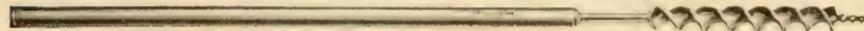

Fig. 1.—Pipe shaft soil auger.
*The Soil Auger*, as illustrated in Fig. 1, should be  $1\frac{1}{2}$  inches in diameter, though where very large stumps only are encountered, a 2 inch or even a  $2\frac{1}{2}$  inch auger may be more convenient. A soil auger differs from a wood auger in having a point 2 to 4 inches long instead of  $\frac{1}{2}$  inch and in having a steeper pitch.